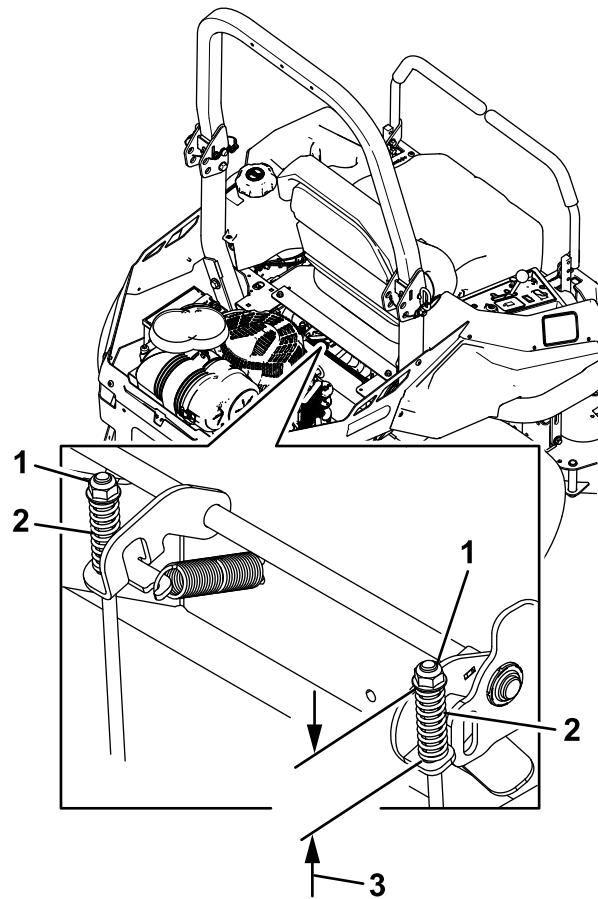

Figure 61
7. Check both spring lengths as shown in Figure 61. If an adjustment is necessary, turn the top nut clockwise to shorten the spring and counterclockwise to lengthen it.